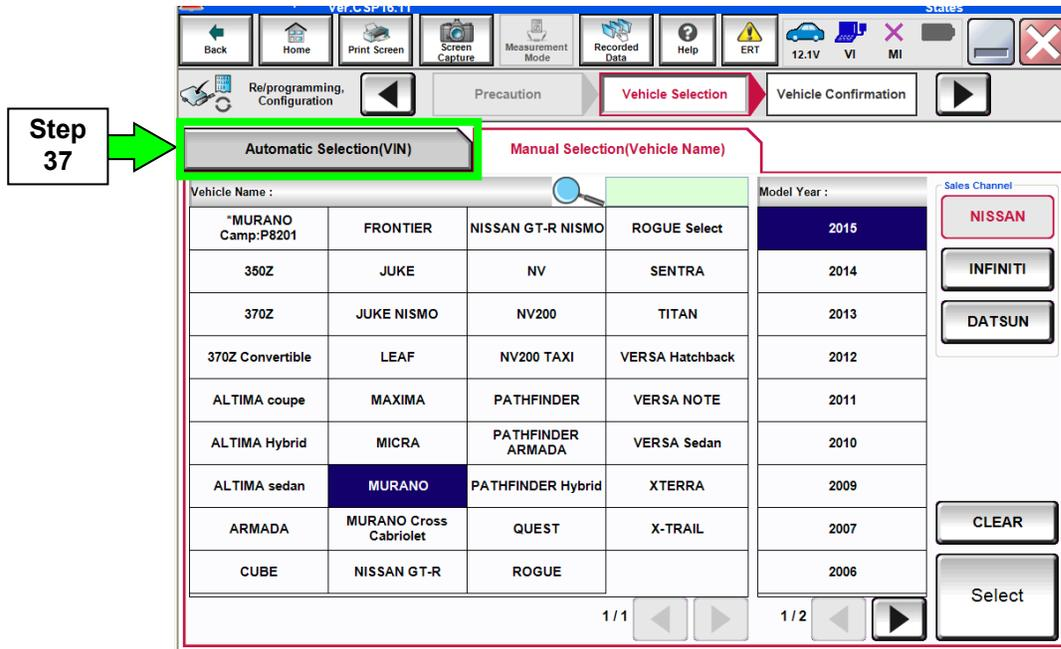

Figure 27
37. If the screen in Figure 27 appears, select **Automatic Selection(VIN)**.